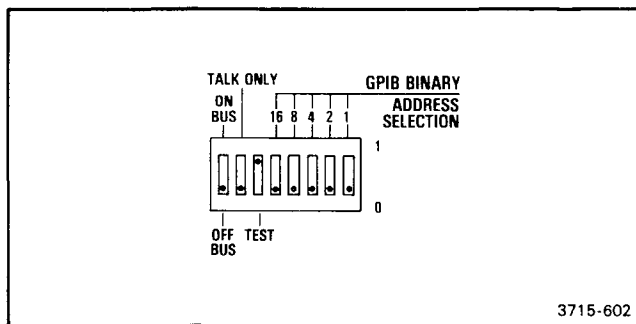

Figure 6-3. GPIB selector switch setting.
3. Set the rear-panel GPIB selector switch as shown in Figure 6-3.